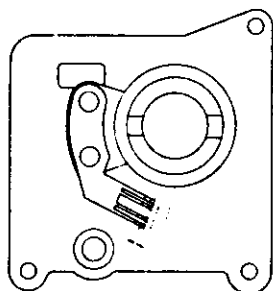

Fig. 46
(B) Shutter dial baseplate assy (Fig. 46).